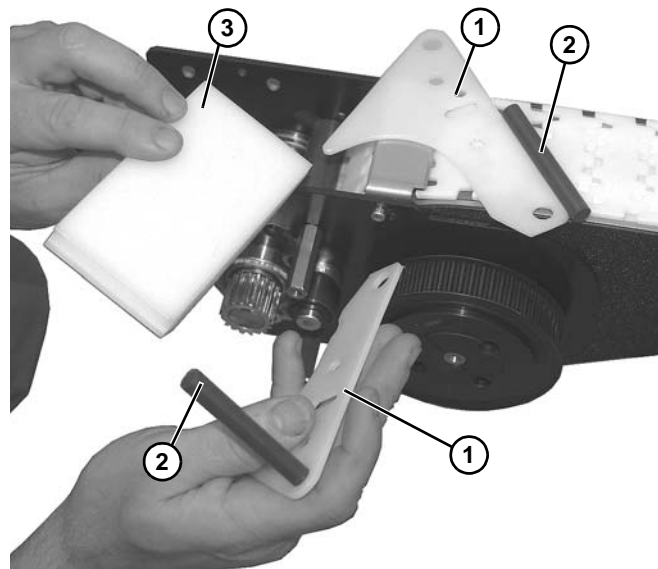

Figure 167
11. Disassemble side guide plates (**Figure 167, item 1**), wear rods (**Figure 167, item 2**), and wear bar (**Figure 167, item 3**). Replace worn components.